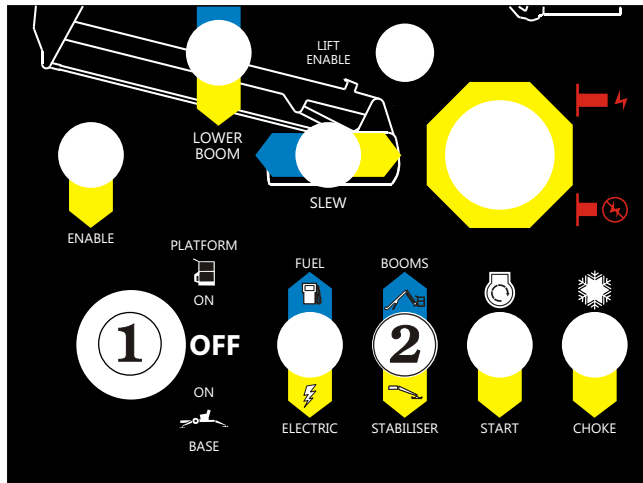

Figure 10.12
1. Insert the key **1** into the **Platform / Ground Selector Switch** at the ground control box and select platform (see Figure 10.12).